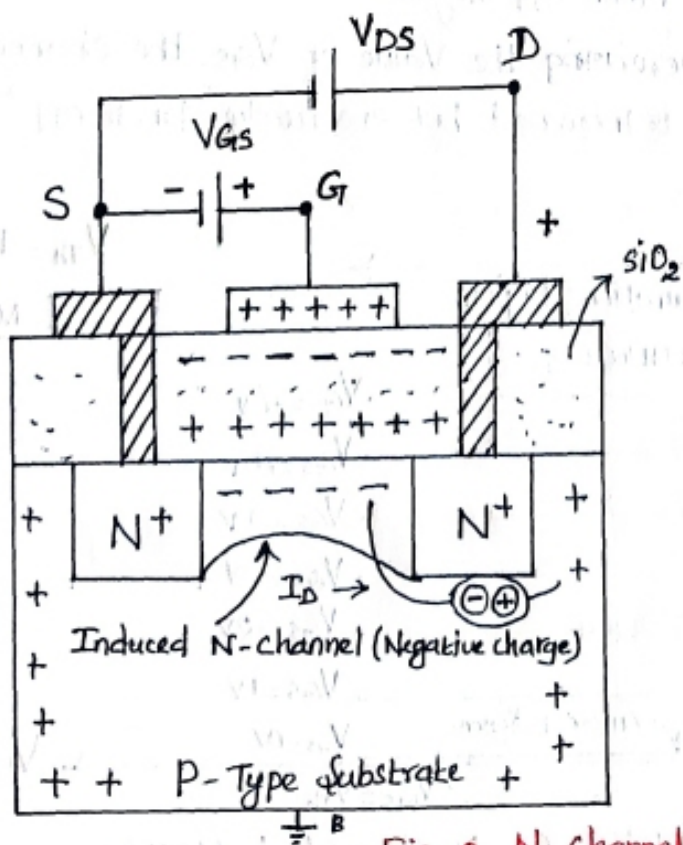

Fig. 2. N-channel E-MOSFET
- As the positive voltage on the gate (V_{GS}) increases, the 'Induced Negative charge' in the semiconductor increase. Hence the Conductivity increases and Current (I) flows from source to Drain. Thus the drain current (I_D) is enhanced (increase) by the positive voltage as shown in fig. 2.